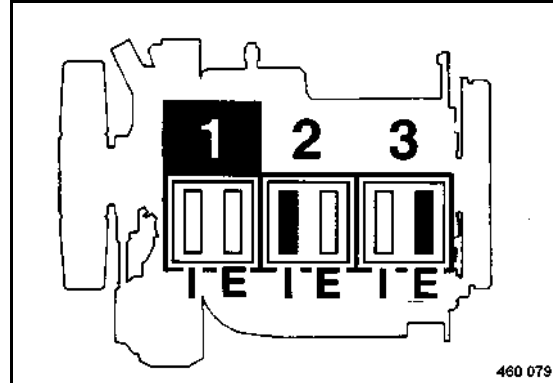

Fig. 162
**Crankshaft position 1 (Fig. 162)**
- Check the black valves (Fig. 162) on cylinders 1, 2 and 3, adjust if necessary.